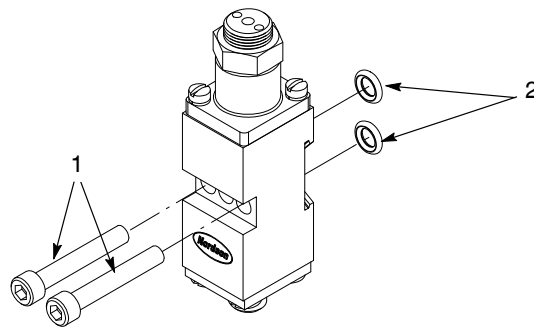

Figure 9-8 Replacing a module (standard ClassicBlue module shown)
5. See Figure 9-8. Remove the module mounting screws (1) and then remove the module. Remove the module O-rings (2) for inspection.